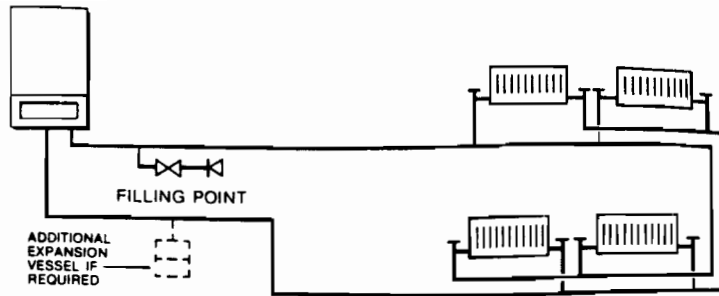

FIG. 4 TYPICAL SEALED SYSTEM
**5. GUIDE TO SYSTEM REQUIREMENTS** (see Figs. 4 & 6)
(4) **Provisions for Make Up Water** (see Fig. 4)
If the capacity of the central heating system should exceed 156 litres, an additional vessel should be installed on the return to the combination boiler from the heating system (Fig. 4). Guidance on vessel sizing is given in (Table 3).